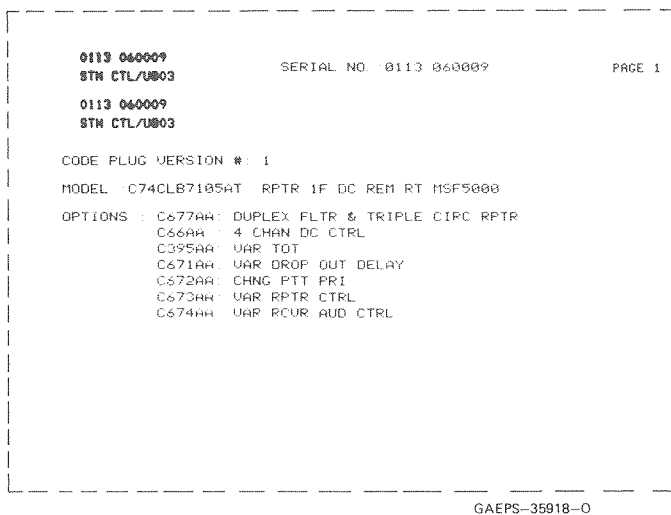

Figure 9.
4.5.1 The Station Parameter Booklet is a three page (minimum) document printed by the factory computer as it generates the programming information for the EPROM code plug. The programmed EPROM contains the customer's specific requirements, and is marked with a unique customer serial number. The Station Parameter Booklet provides a listing of those specific customer requirements. Figures 9, 10, and 11 illustrate typical examples of pages 1, 2, and 3 of the Station Parameter Booklet, respectively. After the booklet is printed, it is placed in the tuning tool pouch of the station in which its corresponding Code Plug is installed. Use the booklet to determine the specific station parameters describing the customer's equipment, e.g., transmit and receive frequency, PL and/or DPL codes, TOT
4.5.2 Figure 9 illustrates a typical page 1 of the *MSF 5000* System Parameter Booklet. The information presented on this page includes: